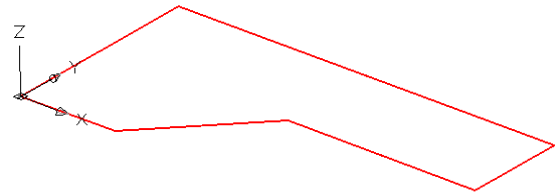

Figure Step 5
Step 5 Set the current layer to Model. Enter the LINE command as shown below to start the construction of the model. See Figure Step 5.